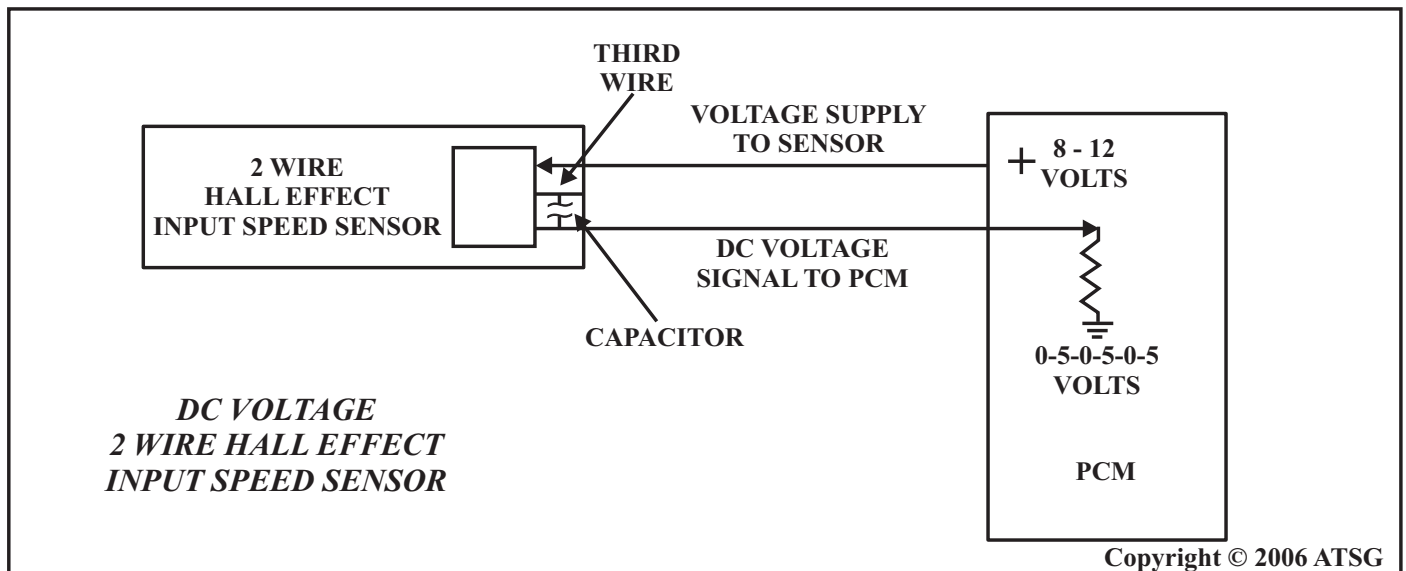

Figure 12
The diagram in Figure 12 is the Input Speed Sensor Circuit found in the Volvo S80 with 4T65E-V. The input speed sensor is a Hall Effect type. What makes this sensor different is instead of the typical 3 wire arrangement, it only has two (2) wires. The third wire is basically a part of and controlled by a capacitor inside the speed sensor.